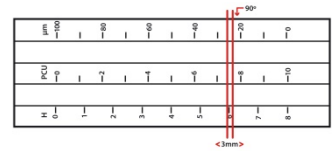

Figure 2
- Find a band across the grooves of 3mm wide which contains 5 to 10 particles of the material as shown in Figure 2.